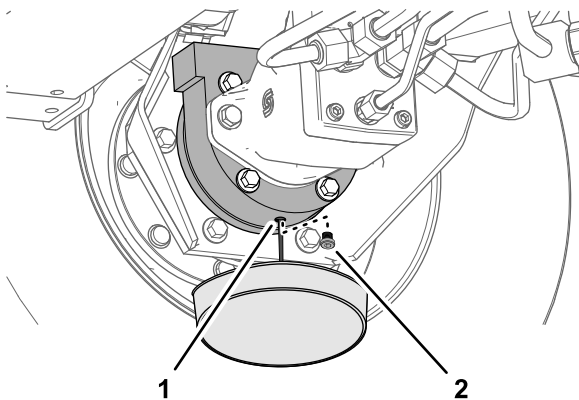

Figure 62
6. Place a drain pan under the brake housing, remove the drain plug, and allow the oil to fully drain (Figure 62).